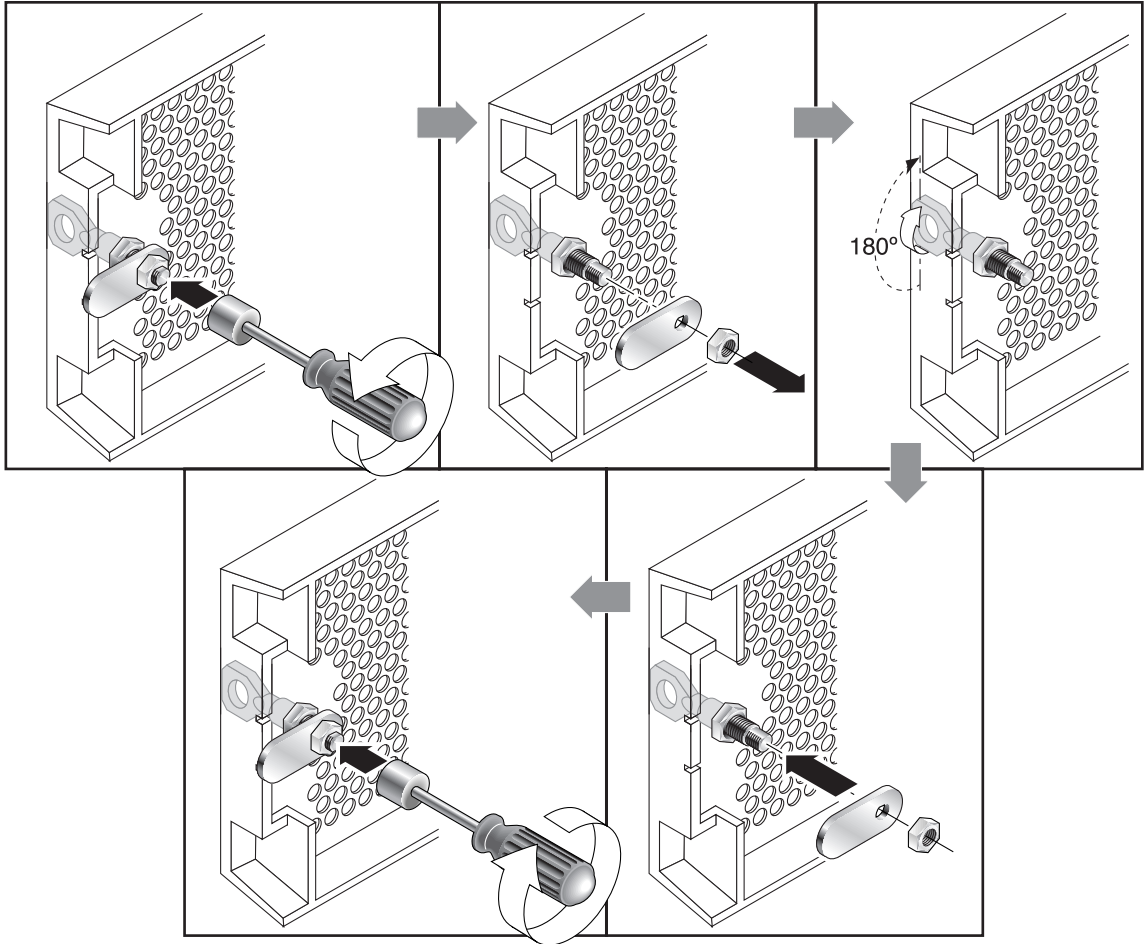

FIGURE 4-2 Sequence of Steps to Change Front Bezel Locks So Keys Cannot Be Removed
3. **Hold the key in place and use a 12 mm or 3/8-inch nut driver to remove the locking nut that holds the pawl in place, as shown in the first panel of FIGURE 4-2.**
4. Lift the pawl off the threaded part of the lock body, as shown in the second panel of FIGURE 4-2.
6. Use the key to turn the lock 180 degrees, as shown in the third panel of FIGURE 4-2.
7. Replace the pawl in the same orientation as before, as shown in the fourth panel of FIGURE 4-2.
8. Hold the key in place and use the nut driver to refasten the locking nut that holds the pawl in place, as shown in the fifth panel of FIGURE 4-2. Be careful not to cross-thread the nut.